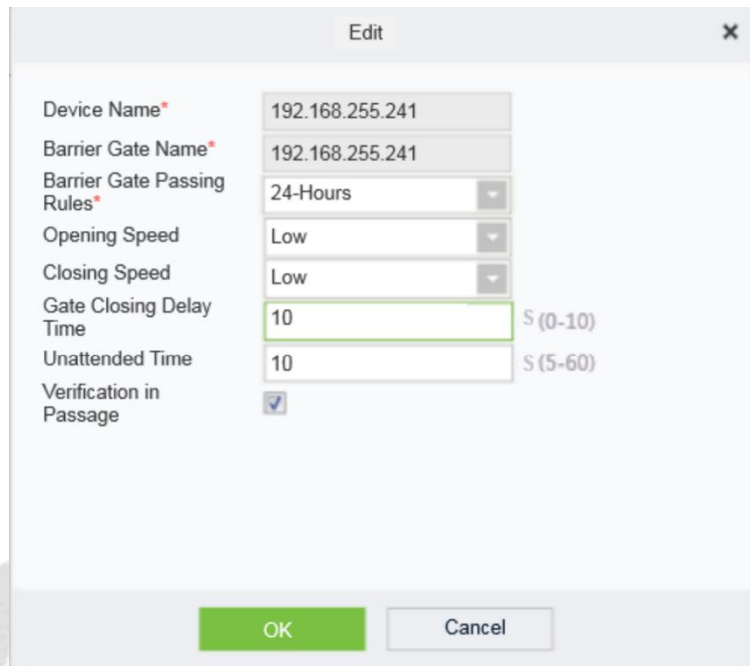

Figure 12-43 Swing Barrier Parameter Configuration Interface
Step 2: In the swinging interface, click the **Edit** button under the swinging name or operation to enter the swinging parameter editing interface, as shown in Figure 12-43. Please refer to Table 12-8 for parameter description.